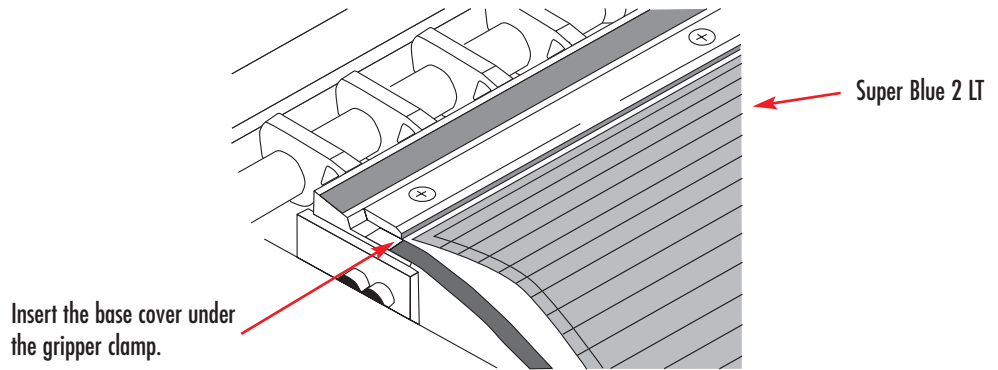

Figure 2
6. Insert the Super Blue® LT™ system under the gripper clamping bars approximately 1/8" to 3/16". Be sure that the Super Blue® LT™ system is centered on the transfer cylinder and tighten the flat head screws. (See Figure 2.)